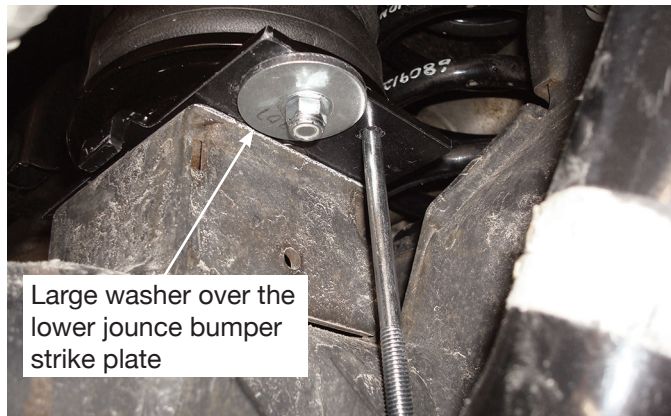

Fig. 16
2. Carefully set the upper air spring bracket into position, making sure that the carriage bolt and fitting line up with the holes in the frame bracket (Fig. 16). Raise the axle up so that the brackets come together, making sure the fitting and the carriage bolt go through the holes and do not bind.